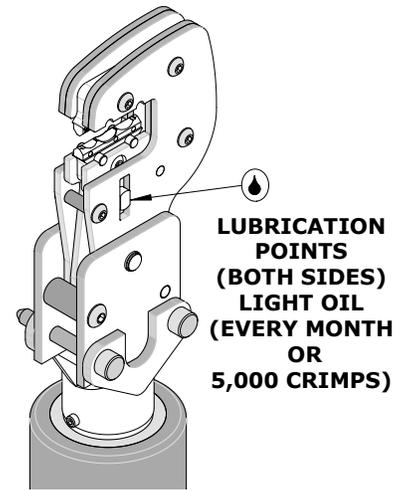

Figure 8.5
4. Make certain all pins, pivot points and bearing surfaces in the tool head are protected with a thin coat of high-quality machine oil. Do not oil excessively. Using a light oil such as SAE 30 weight automotive oil every 5,000 crimps or monthly will significantly enhance the tool life and ensure a stable calibration. See Figure 8.5 for lubrication points.